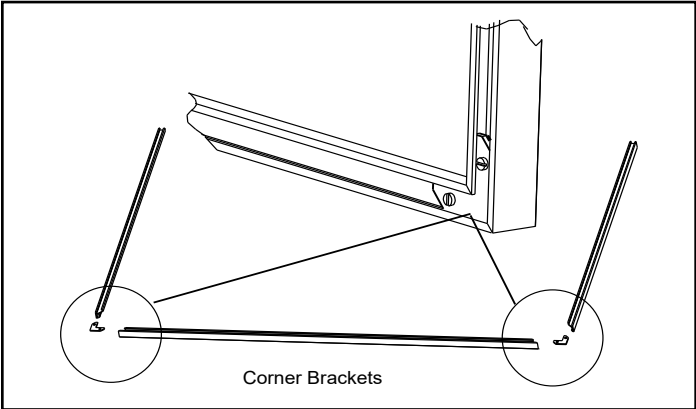

Figure 5.12
- 3. Assemble trim as shown in **Figure 5.12**.